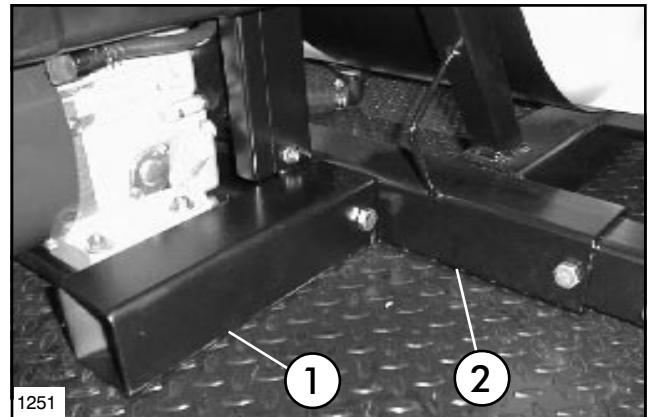

FIG. 3
10. Slide the Engine / Pump Base on to the mount tubes on the rear of the Saddle Assembly. Secure using (2) 1/2" x 3-1/2" cap screws and flange nuts. See FIG. 3.